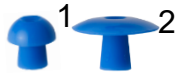

Figure 15
Operating the touchTymp requires the use of eartips – either mushroom shaped (1) or umbrella (2) eartips (Figure 15).